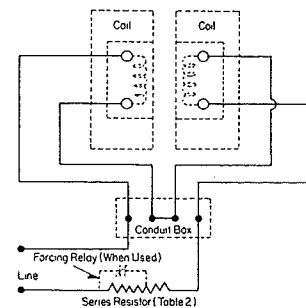

Figure 3: Shunt Coil Connection.
Shunt Coil Operation - Shunt brakes are usually supplied with low voltage coils for speedy action unless otherwise specified, and it is necessary to have a resistance in series with the coil. Coil voltage and value of series resistance is given in Table 2. Coils are connected per Figure 3 with full current flowing through both
per Figure 3 or 4 depending on type of coils being used, and tape leads.
■ Coils may be improperly connected with resultant bucking instead of cumulative magnetic flux. Check wiring per wiring per Figure 3 or 4.